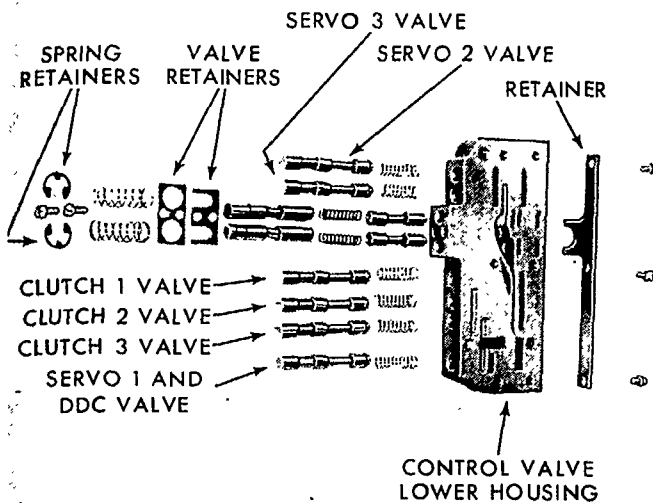
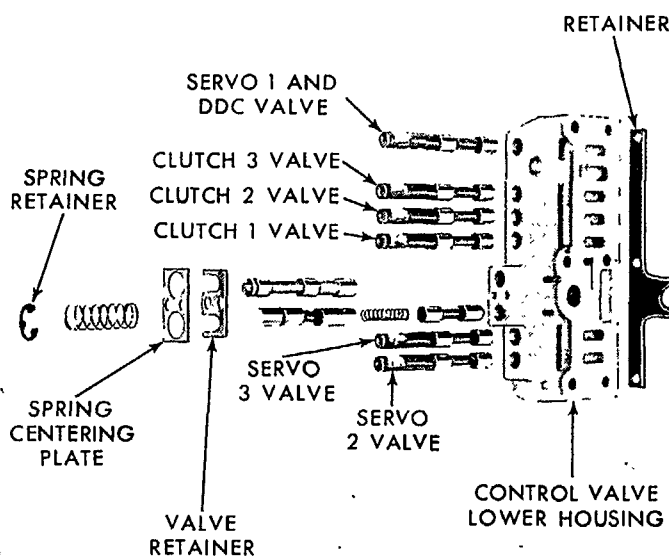

Figure 99
Figure 101
During the servicing of the control valve assembly, avoid damage to the valve ports and keep them clean. Place the valve assembly on a clean chamois or lint-free shop towel. Refer to Figures 99 and 100 for the Dexta 2000, Super Dexta 3000 and Major 4000 Tractors and Figures 101 and 102 for the Super Major 5000 Tractor.
2. On Dexta 2000, Super Dexta 3000, and Major 4000, remove the two feathering valve spring retainers, two springs, spring retainer plate, feathering valve spools, and two springs, shown in Figure 99.
3. On Super Major 5000, remove the feathering valve spring retainer, spring, spring retainer plate, feathering valve retainer plate, and valve spools, shown in Figure 101. Remove the notched clutch and servo valves.
1. Arrange all parts in their proper position as shown in Figures 99, 100, 101 and 102, respectively.